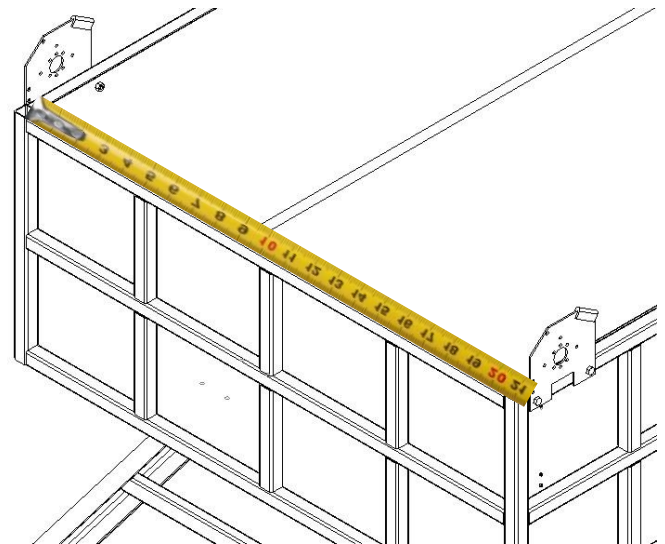
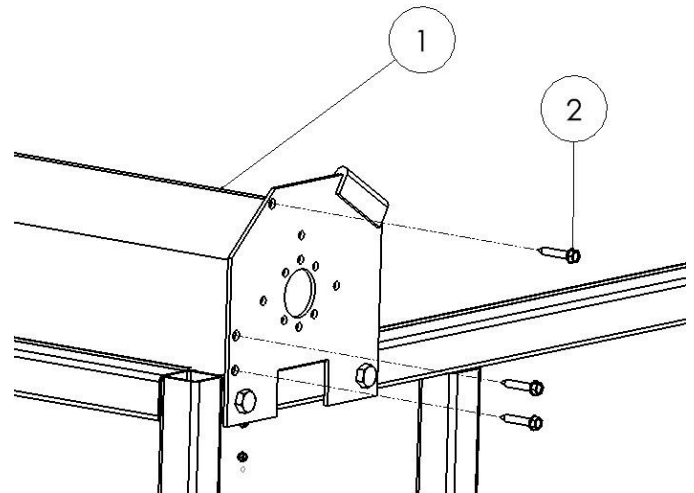

Figure 1.6
Figure 1.7
Measure the distance between the two, tarp spool mounting brackets (Figure 1.6). Verify that the wind deflector is the same length. If the wind deflector is too long, cut it to the correct length. Attach the wind deflector (1) to the tarp spool mounting brackets using the supplied 5/16" x 1-1/4" thread-cutting bolts (2). (Figure 1.7)